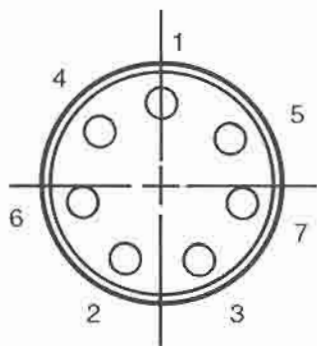

FIG. 32 – IMPELLER MOUNTING SCREWS TIGHTENING SEQUENCE
- a. Apply the torque of 120 ft. lbs. in 2 equal steps. Refer to Fig. 32 for sequence of tightening screws.